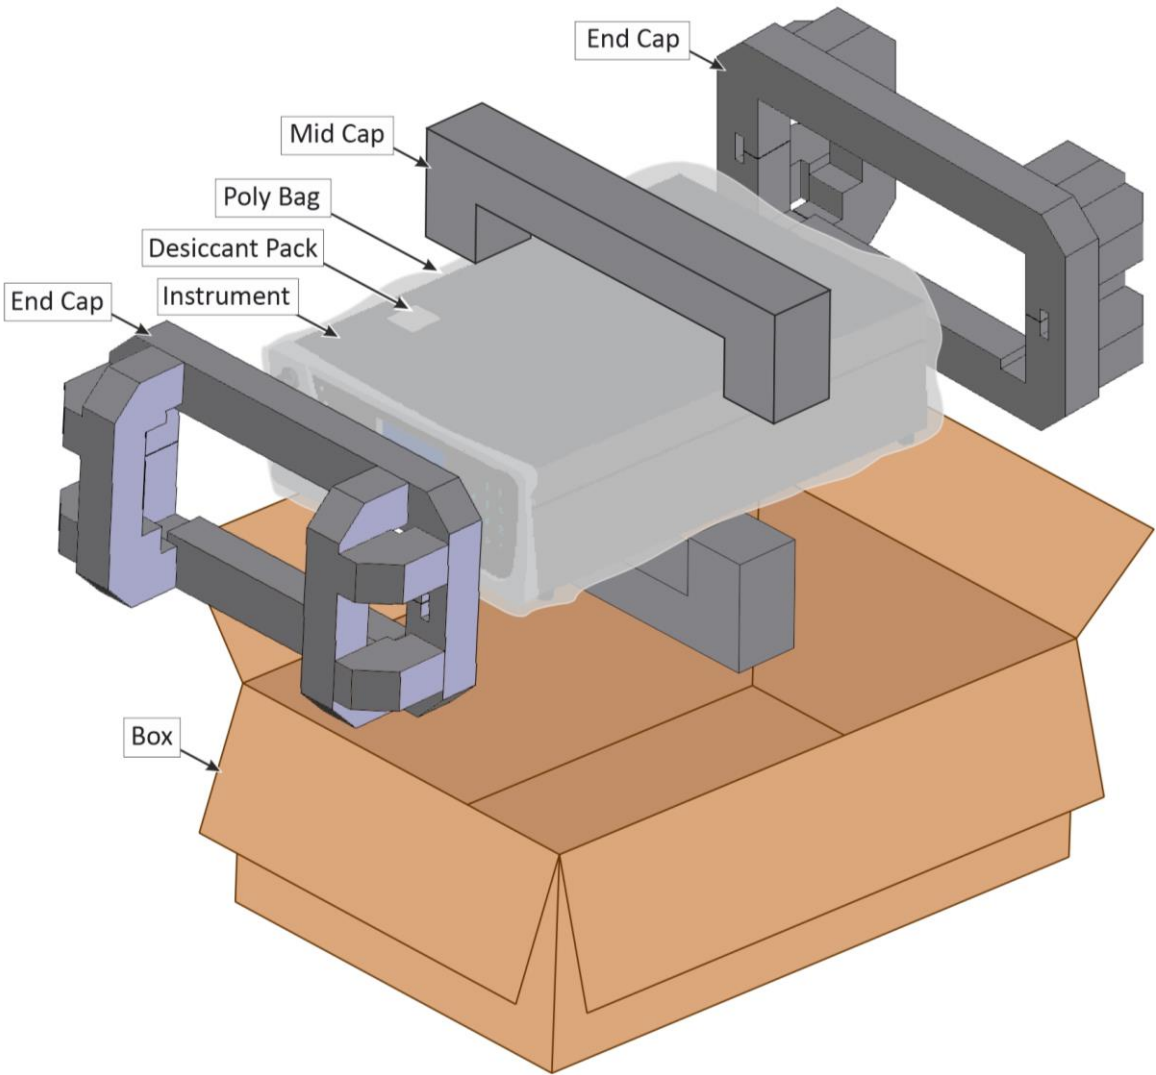

Figure 38 – Packing Instruction
9. Refer to Figure 38. Place the instrument back into the original foam and box it was delivered in. If this is no longer available find some equivalent packaging that provides protection from damage.